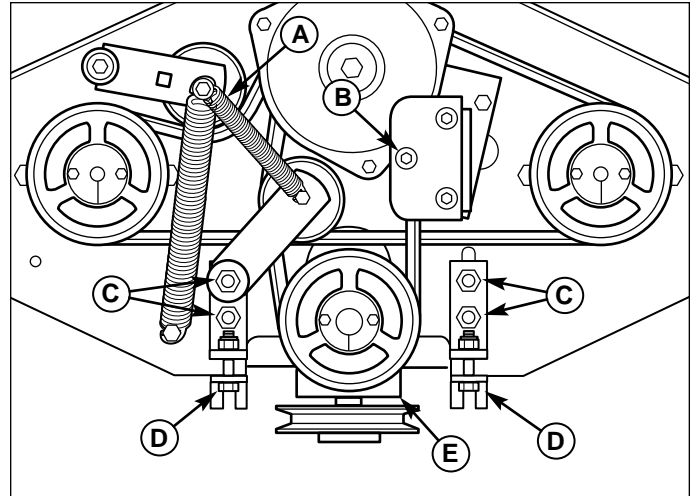
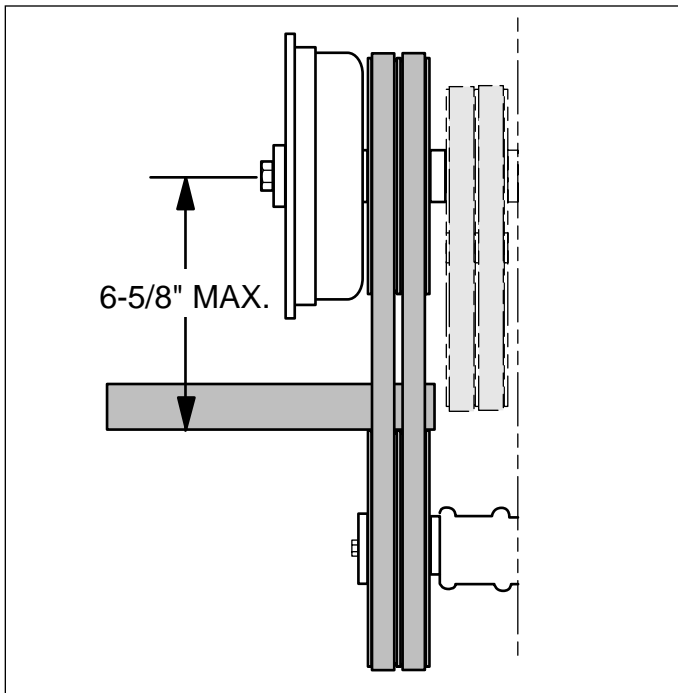
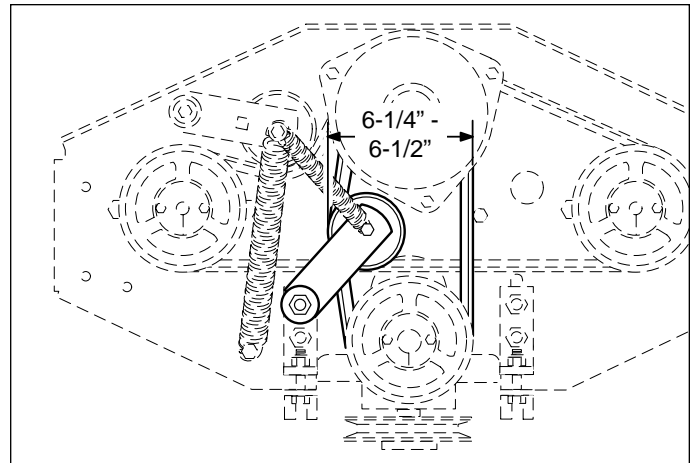

Figure 1. Clutch Belt Removal & Replacement
Figure 2. Clutch Belt Tension Initial Measurement
Figure 3. Clutch Belt Tension Measurement
1. Replace the two (2) bolts (D, Figure 1) that mount the tension brackets to the pump plate. When installing new belts, tighten these bolts until a maximum measurement of 6-5/8" is obtained between the center of the clutch retainer bolt and the top edge of the gearbox input pulley. To measure, lay a straight edge on top of the gearbox input pulley (see Figure 2).
2. Measure the clutch drive belt deflection. With the clutch belt idler spring installed on the pump drive idler arm, a dimension of 6-1/4" - 6-1/2" should be measured from the outside edge of the idler pulley to the outside edge of the clutch drive belt (see Figure 3). You may need to readjust the belt tension bolts (D, Figure 1) until this measurement is achieved. Tighten the (4) nylon nuts (C, Figure 1).